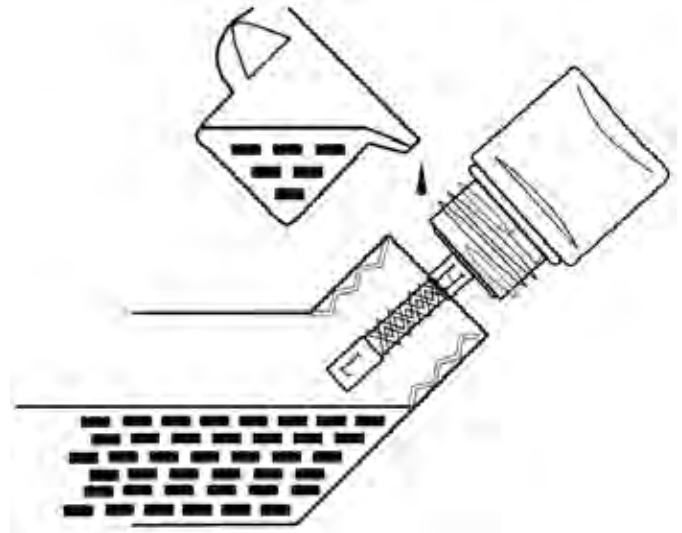

Figure 17 - Checking Oil Level
- **Acceptable Oil Level** – Oil is visible on the crosshatches between the H and L lines on the oil fill plug/dipstick (see Figure 17).
8. Continue to add oil until the oil is at the correct level. See Figure 17.